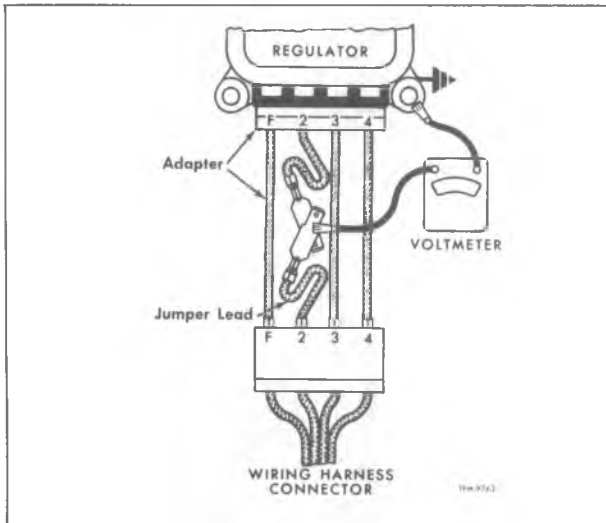

Figure 12—Testing Regulator Field Relay (Two-Unit Type Regulator)
1. Make connections to the regulator and connector terminals as shown in figure 12.